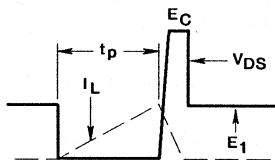

FIGURE 15. CLAMPED INDUCTIVE WAVEFORMS
4. $V_{DD} = 50\text{V}$, starting $T_J = +25^\circ\text{C}$, $L = 25\text{mH}$, $R_{GS} = 20\Omega$, $I_{PEAK} = 4.5\text{A}$. See Figure 15.
4. V_{DD} = 50V, Start T_J = +25°C, L = 25mH, R_{GS} = 25Ω, I_{PEAK} = 4.5A (See Figure 15)